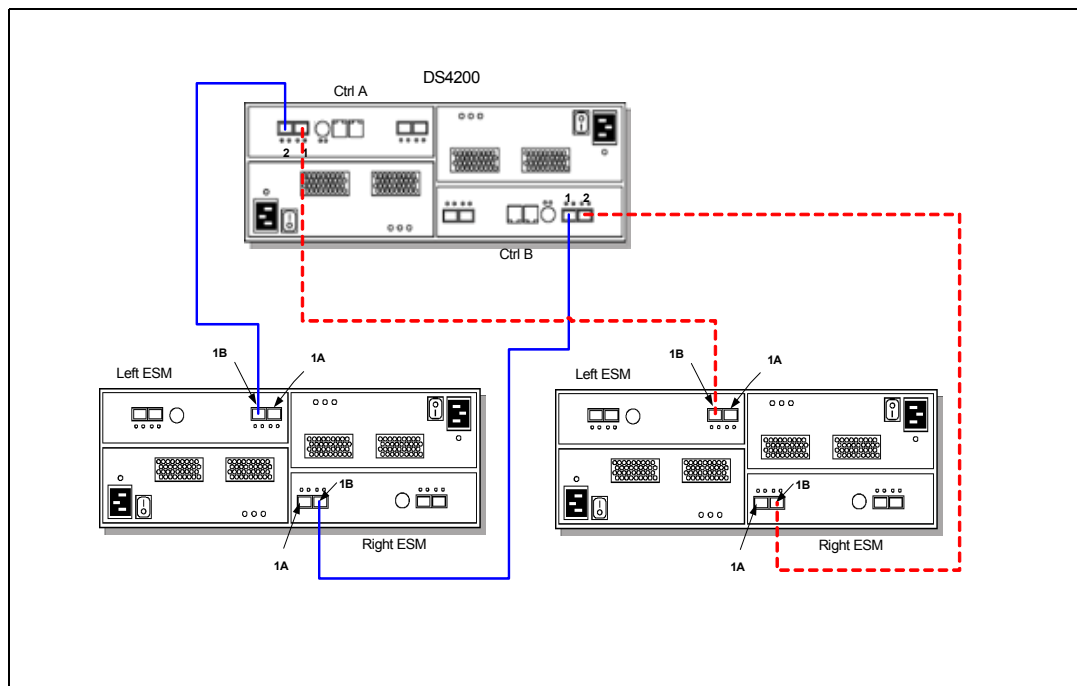

Figure 3-17 DS4200 drive cabling with two EXP420 enclosures
- If you attach a second EXP420, connect it by using the second port on the controller, as shown in Figure 3-17.